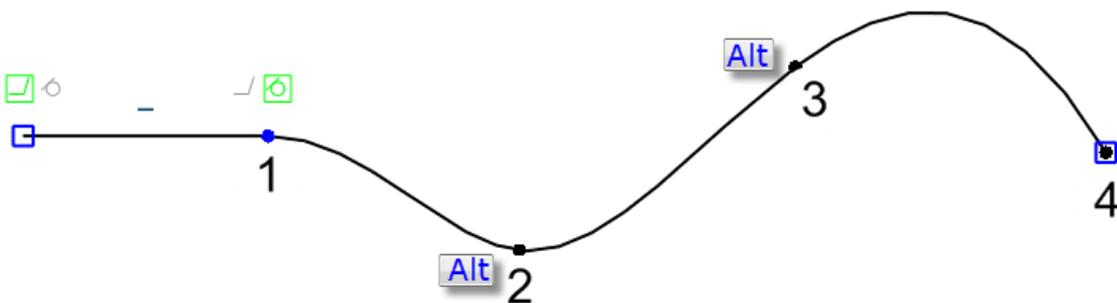

Figure 36 Create a Curve Through Points with Quick Draw
STEP 03 Middle-click when you want to terminate Quick Draw. See the Figure 36.